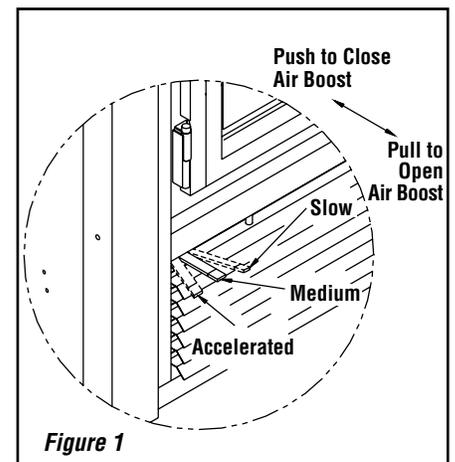

Figure 1
This is the recommended mode of operating the Brentwood fireplace and should be the one normally used since it will deposit the least amount of creosote on the glass and in the chimney. The combustion air control must be 3/4 closed and pushed in to close the air boost (*Figure 1*). The precise setting will depend on many factors, including chimney length and the moisture content of the wood.
Creosote may accumulate on the glass door. This method of burning should be used only after operating the Brentwood fireplace with the air control opened (*Figure 1*) to produce a hot fire for about an hour or at medium pace for at least three (3) hours. Slow combustion can be used at night in order to reduce the heat output and to prolong the burn. The loading time will be between 6-8 hours.
The Brentwood fireplace will operate best if attention is given to operating the unit with the damper fully opened (*Figure 1*) after refueling in order to bring the firebox and the chimney system up to their optimum operating temperature. Combustion efficiency is relative to firebox temperature. A temperature of 500° C (932° F) and up, with a visible flame, in the upper part of the firebox indicates a maximum efficiency. To obtain this temperature, the fireplace must be operated with the primary air and air boost controls fully opened during 10 to 20 minutes after reloading, depending on the heat and on the moisture content of the wood.